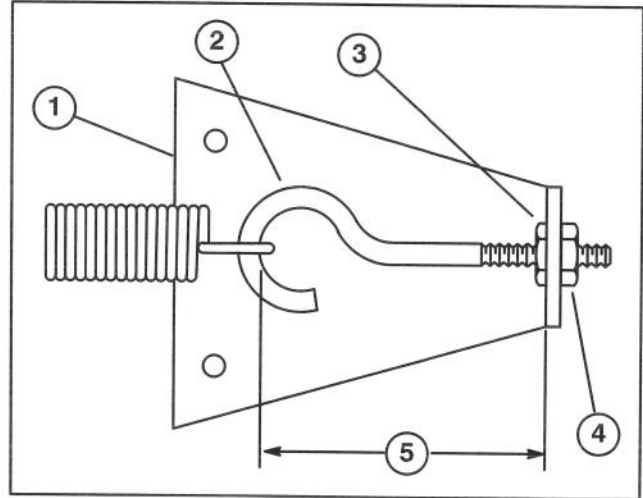

Figure 66
CHECKING AND ADJUSTING TRACTION LINKAGE (Fig. 66)
4. Rotate, clockwise, until distance between inside of eye bolt loop and inside of spring anchor plate is shortened $\frac{1}{8}$ ", as shown in figure 66. Tighten hex nut.